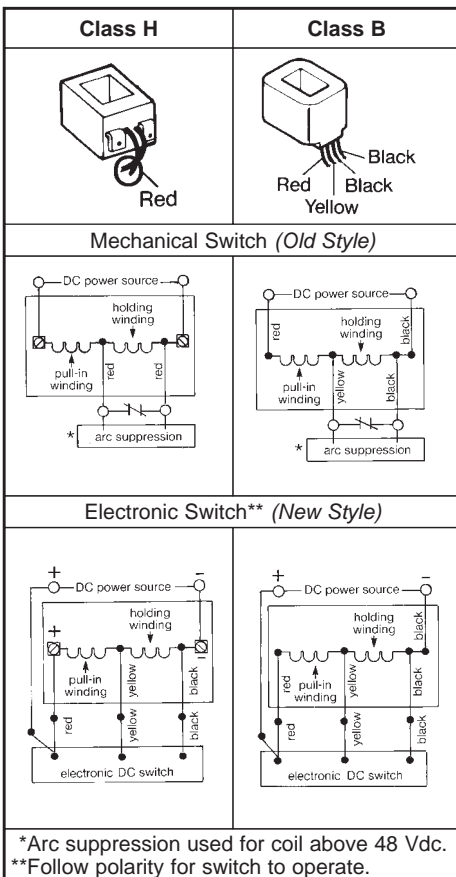

Figure 7
- All Stearns DC coils are single voltage dual winding. A high current pull-in winding is initially energized to start the plunger movement, while a low current holding winding is momentarily shunted from the circuit until the plunger has pulled in. The older design incorporated a mechanical switch mounted to the solenoid frame and actuated by an arm mounted to the plunger to bring the holding coil into the circuit. In addition, coils over 48 Vdc have an arc suppression module in parallel with the switch contacts to protect the contacts from arc erosion and suppress EMI. The polarity of the incoming power supply is immaterial with the mechanical switch. The new electronic switch design incorporates an electronic timing circuit to allow the plunger to pull in, then electrically switch to the holding winding. Polarity of the power supply to the electronic switch and coil must be maintained. Refer to Figure 7 for proper wiring.